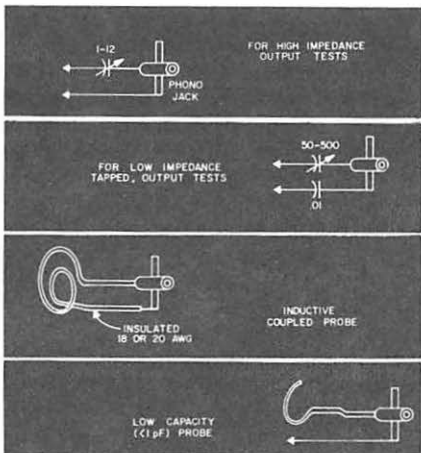

Fig. 4. Coupling methods.
*Diode detector cable probes.* Have a collection of these on hand as in Fig. 4. You can use them also to feed rf into a pilot light, connect up to your lab receiver, etc.